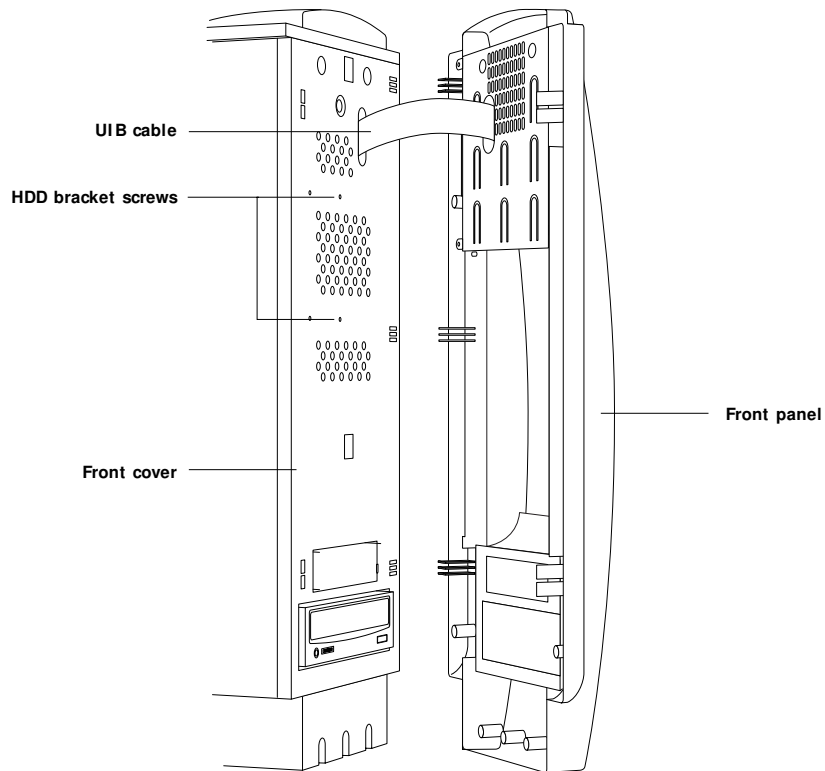

FIGURE 4-29 Removing HDD bracket screws from the front cover
3. With the front panel removed, replace the two HDD bracket screws in the front of the cover (see Figure 4-29 on page 4-43).